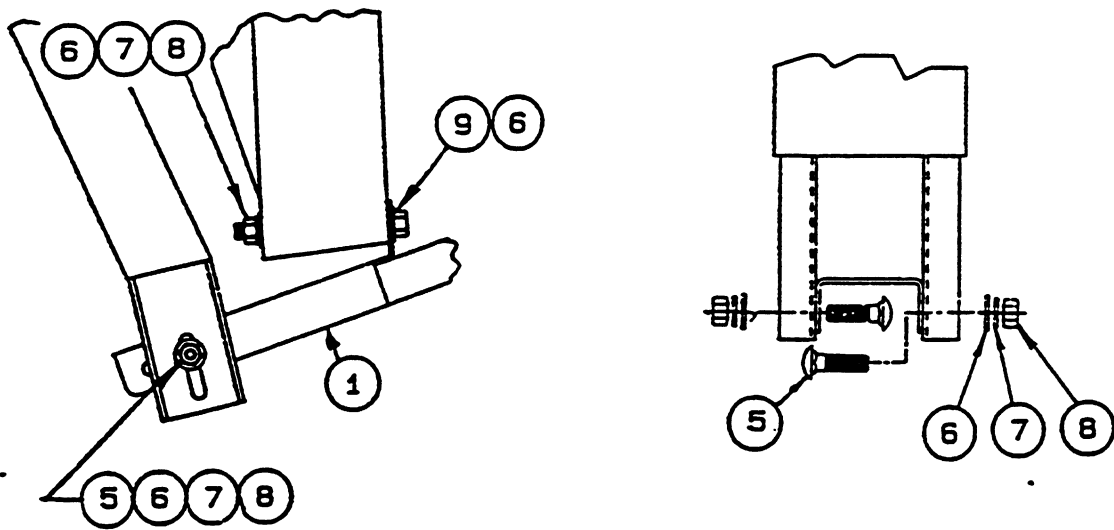

FIGURE 3.0-4
4. Attach the bottom of the feed support tube to the reflector support tube using 2, 5/16-18 x .75" carriage bolts, flat washers, lock washers and nuts. Reference Figure 3.0-4.